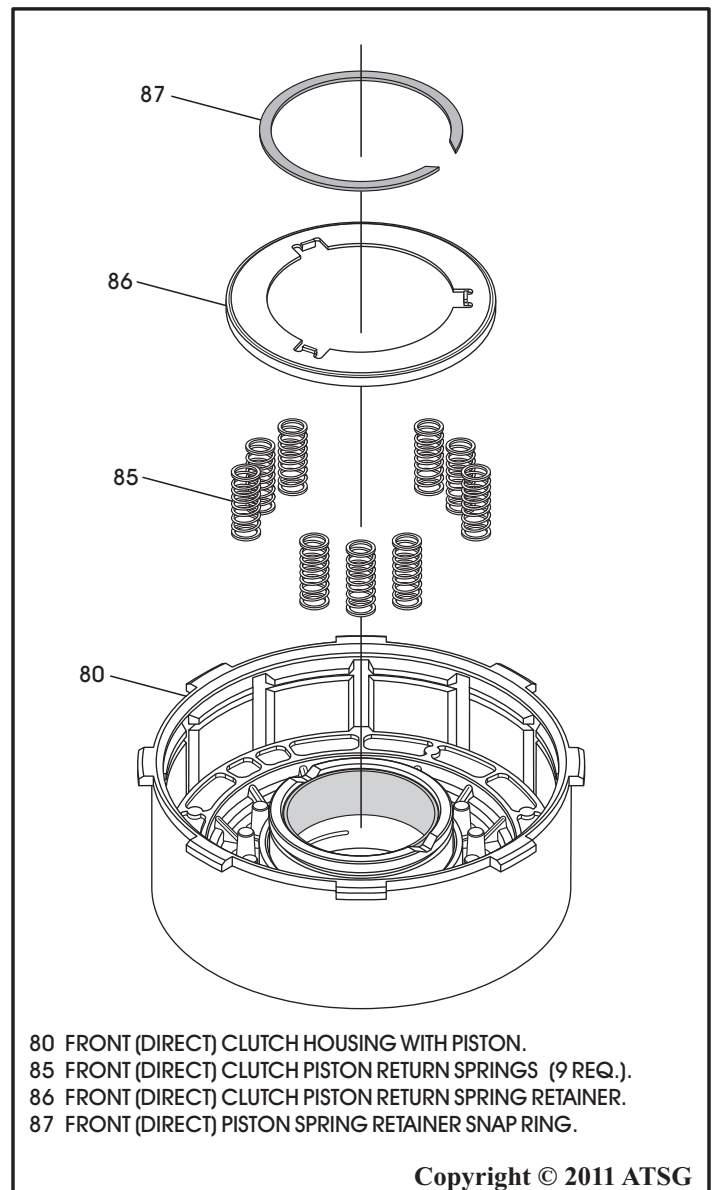

Figure 118
8. Install the direct clutch piston return springs, as shown in Figure 118. The 48RE has nine.
9. Install the spring retainer on top of the springs, as shown in Figure 118.
10. Compress the retainer and springs and install the snap ring, as shown in Figure 118.